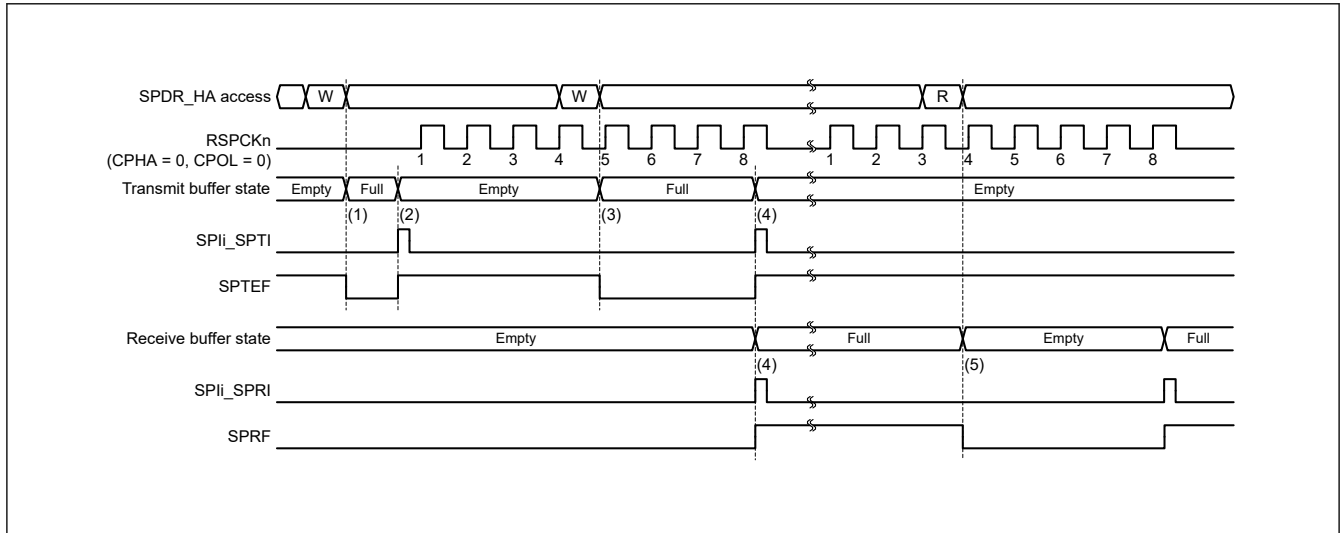
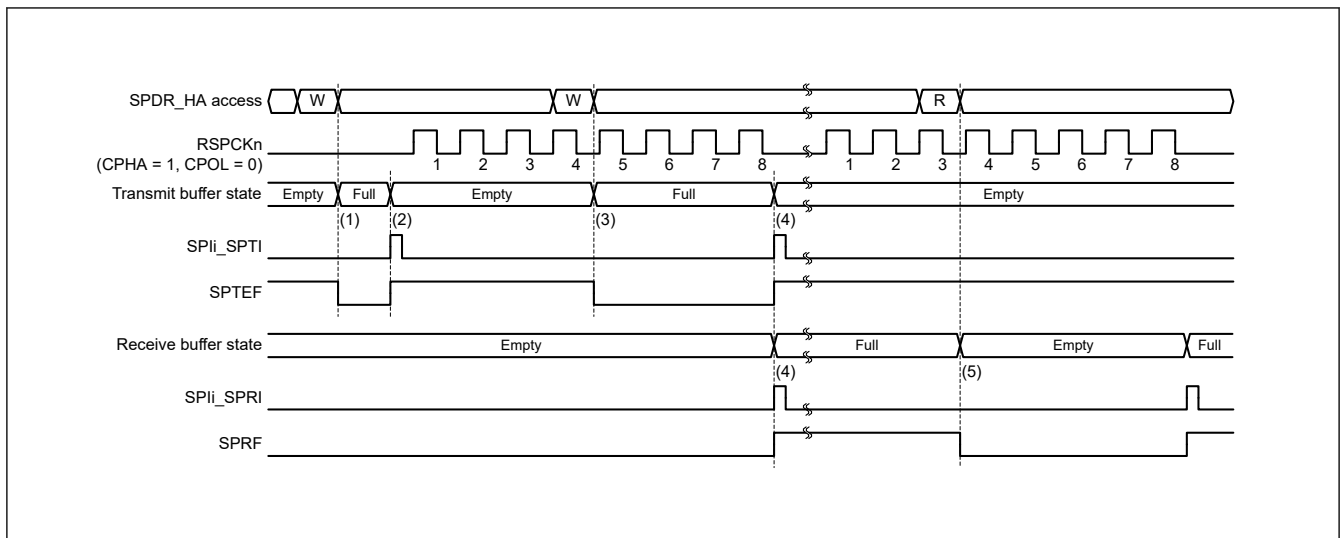

Figure 28.26 Operation example of the SPli_SPTI and SPli_SPRI interrupts when CPHA = 0 and CPOL = 0 in master mode
Figure 28.27 Operation example of the SPli_SPTI and SPli_SPRI interrupts when CPHA = 1 and CPOL = 0 in master mode
Figure 28.26 and Figure 28.27 show examples of operation of the transmit buffer empty interrupt (SPIi_SPTI) and the receive buffer full interrupt (SPIi_SPRI). The SPDR_HA register accesses shown in these figures indicate the conditions of access to the register, where W denotes a write cycle and R a read cycle. In Figure 28.26, the SPI performs an 8-bit serial transfer when SPCR.TXMD bit is 0, the SPCMD0.CPHA bit is 0, and the SPCMD0.CPOL bit is 0. In Figure 28.27, the SPI performs an 8-bit serial transfer when SPCR.TXMD bit is 0, the SPCMD0.CPHA bit is 1, and the SPCMD0.CPOL bit is 0.
The operation of the SPI at timings (1) to (5) in Figure 28.26 and Figure 28.27 is as follows: